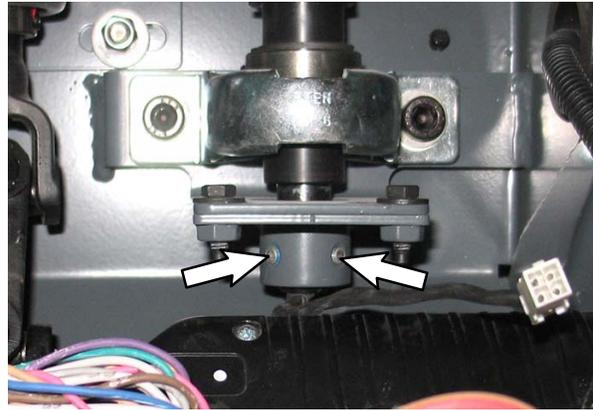
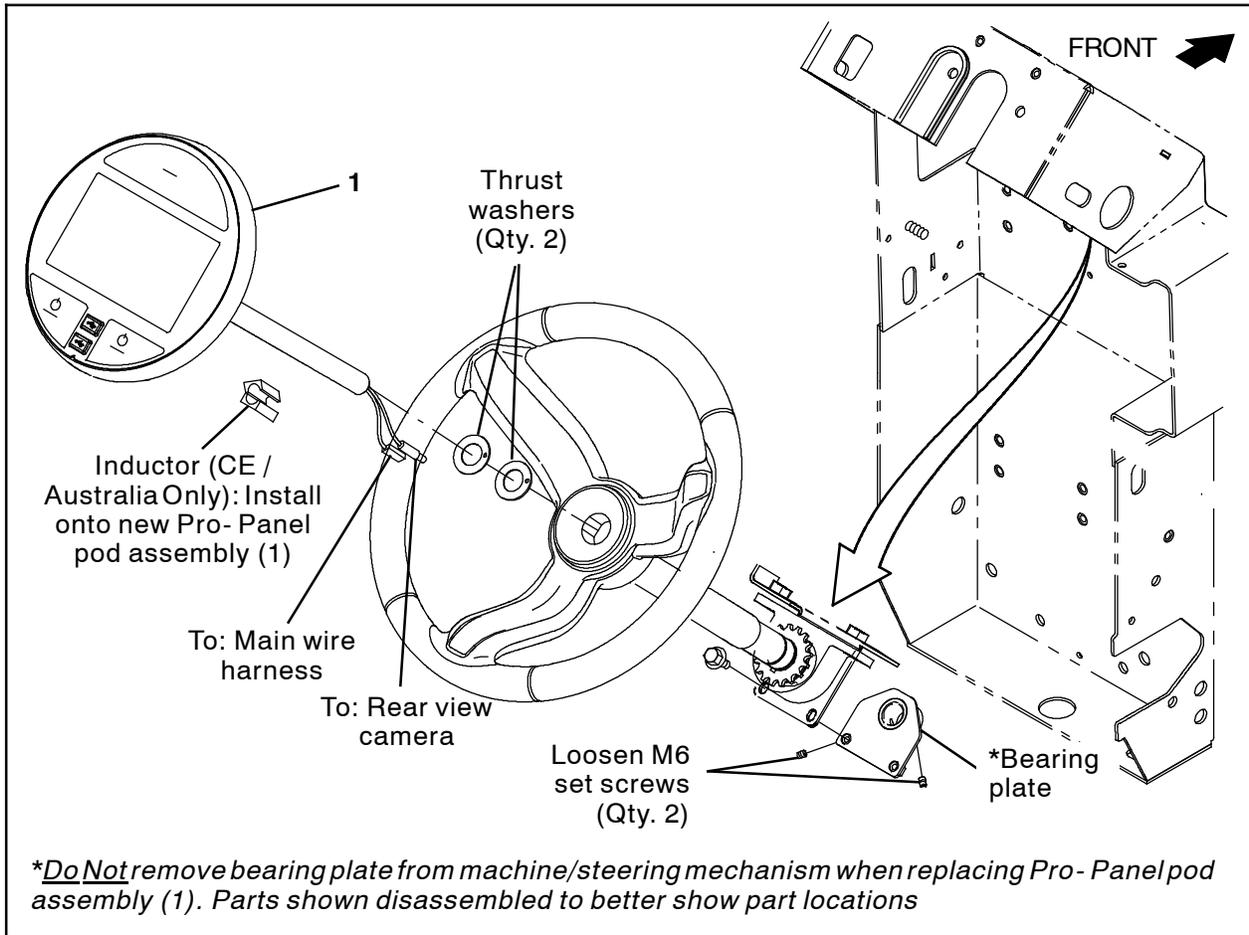

FIG. 5
FIG. 6
1. Disconnect the main wire harness and rear view camera cable from the Pro- Panel pod assembly. (Fig. 6)
2. Loosen the M6 set screws securing the Pro- Panel pod assembly in the bearing plate. (Fig. 5/ Fig. 6)
3. Pull the Pro- Panel pod assembly from the steering mechanism. (Fig. 6)
4. Remove both thrust washers from the Pro- Panel pod assembly. Set the thrust washers aside. Discard the Pro- Panel pod assembly. (Fig. 6)
5. Slide the thrust washers onto the new Pro- Panel pod assembly (1). (Fig. 6)
6. Carefully insert the Pro- Panel pod assembly (1) into the steering mechanism. **Do Not** damage cables when inserting the Pro- Panel pod into the steering mechanism. (Fig. 6)
7. Position the Pro- Panel pod assembly (1) so it is properly aligned on the steering wheel. (Fig. 6)
8. Tighten the two M6 set screws to secure the Pro- Panel pod assembly (1) inside the bearing plate. (Fig. 5/ Fig. 6)
9. Connect the main wire harness and the rear view camera cable to the Pro- Panel pod assembly (1). (Fig. 6)